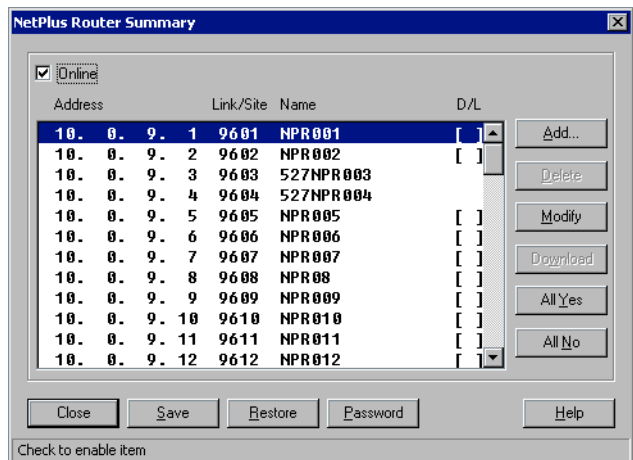

Figure 3-23. NetPlus Router Summary
2. Click the **NP Routers** button on the I/NET Configuration Profiles dialog box. The NetPlus Router Summary screen displays (see Figure 3-23).
It is not possible to download software from TAC I/NET Seven to a Xenta 527/527-NPR. You can quickly identify Xenta devices in the NetPlus Router Summary by looking for the presence of square brackets ([ ]) in the **D/L** column. If a device has no square brackets, it is a Xenta 527 or Xenta 527-NPR (see the third and fourth device listed in Figure 3-23 for an example).